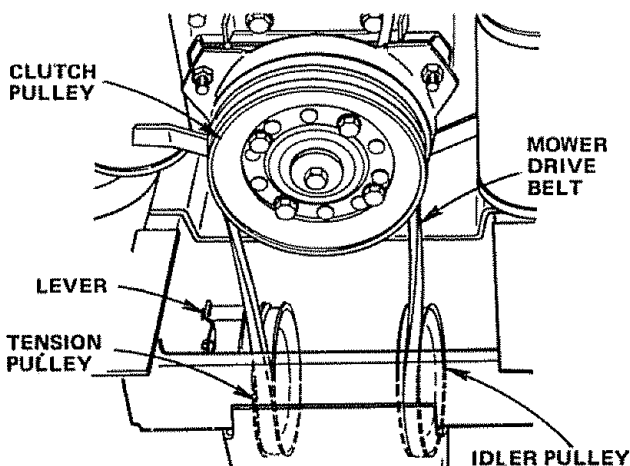

FIGURE 12
2. Place Mower Drive Belt over Clutch Pulley and under Idler Pulley and Tension Pulley (Fig. 12). NOTE: PULL LEVER UP TO SWING TENSION PULLEY FOR BELT CLEARANCE. Make sure narrow "V" side of Belt is engaged with each Pulley.